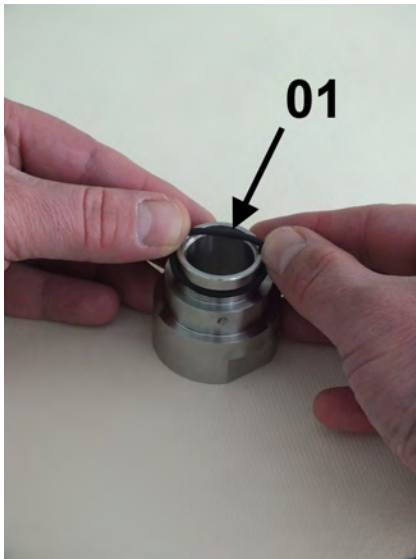
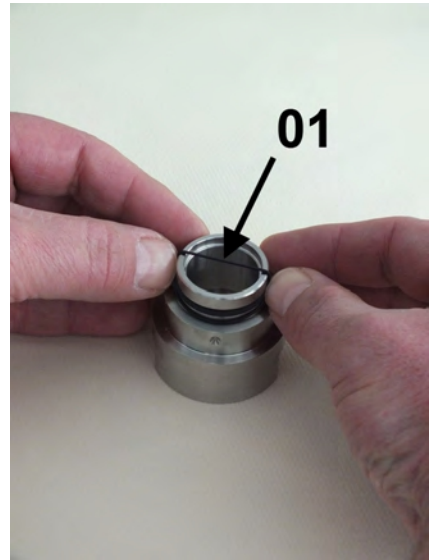
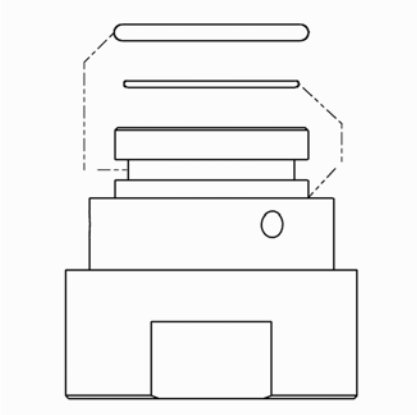

Fig. 39: O-ring (seal)
Fig. 40: O-ring (Glass buffer)
Fig. 41: Position of O-rings
1. ► Carefully install the O-ring (seal) onto the process connection (Fig. 39/1), so that it rests in the upper O-ring notch of the process connection (Fig. 41/1). When doing so, be careful not to overstretch the O-ring.
2. ► Carefully seat the O-ring (Glass buffer) onto the process connection (Fig. 40/1), so that it is properly seated on the lower portion of the process connection (Fig. 41/2). When doing so, be careful not to overstretch the O-ring.